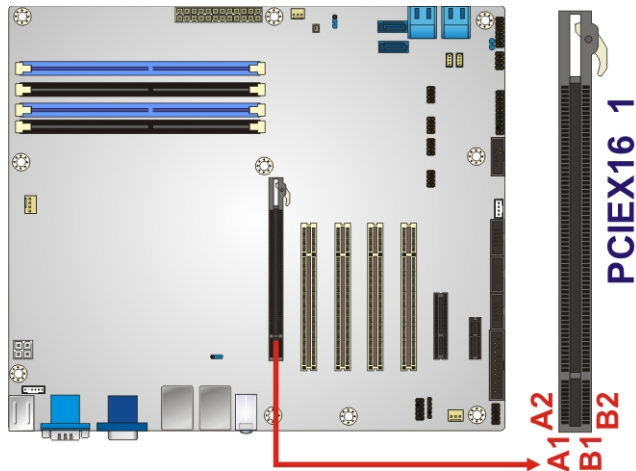

Figure 3-17: PCIe x16 Slot Location
- CN Location:** See **Figure 3-17**